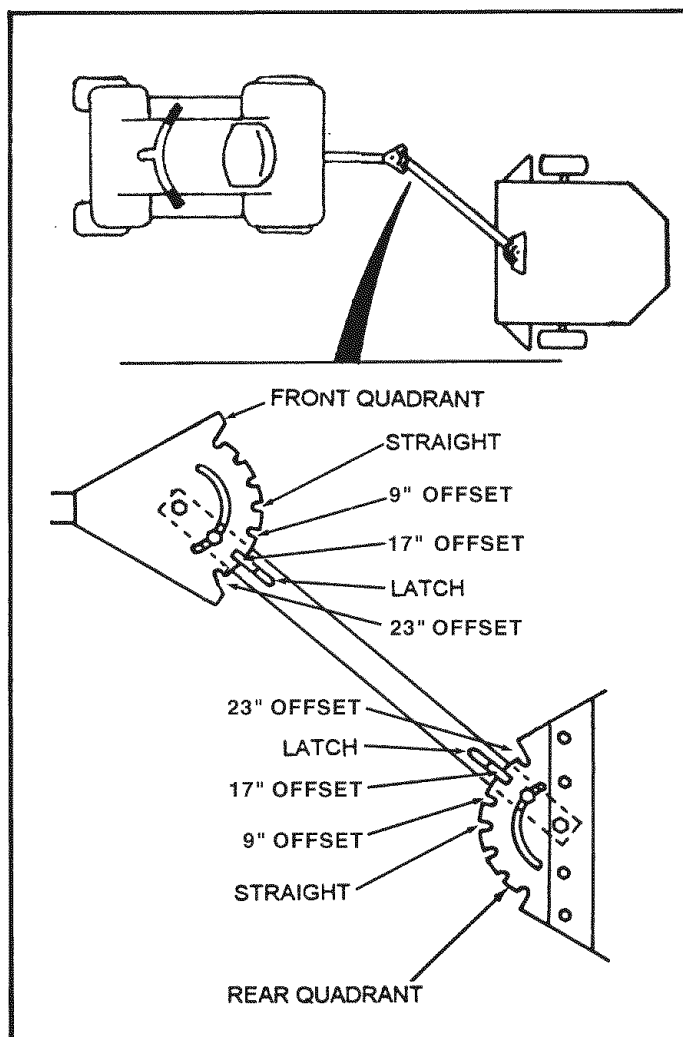

FIG. 8
- Pull back the pivot latch from the notch of the front quadrant. Adjust the hitch tube to the desired offset and release the pivot latch into the notch of the quadrant. (See Fig. 8)